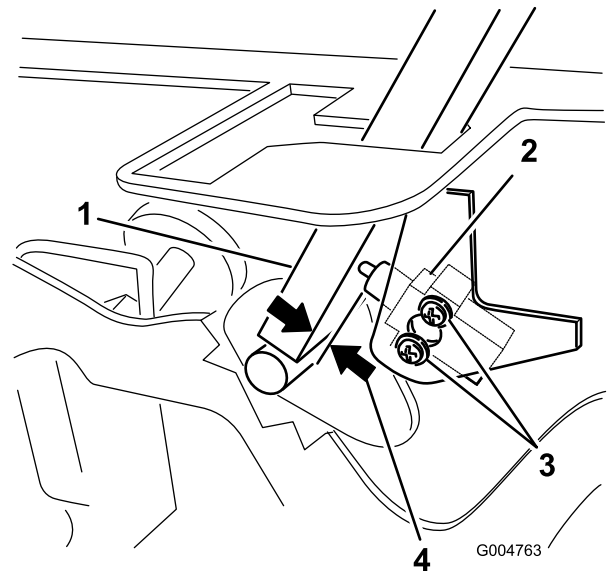

Figure 57
3. Loosen the 2 screws securing the interlock switch (Figure 57).
4. Holding the control lever against the frame, move the switch toward the lever until the distance between lever and switch body is 0.4 to 1 mm (0.015 to 0.045 inch) (Figure 57).